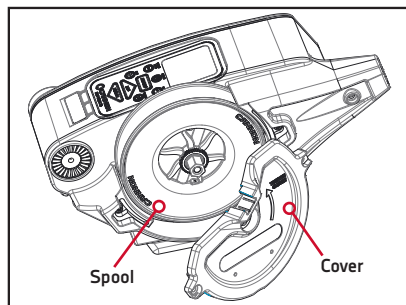

Figure 19
3. Remove the cover and you now have complete access to the spool. (Figures 19 & 20)